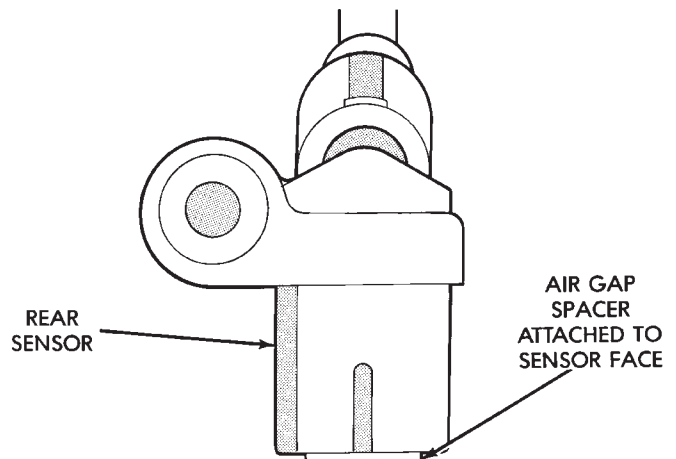

Fig. 11 New Rear Sensor
- (6) If **new** sensor was installed, push cardboard spacer on sensor face against tone ring (Fig. 11). Then tighten sensor bolt to 12-14 N·m (106-124 in. lbs.). Correct air gap will be established as tone ring rotates and peels spacer off sensor face.
- (7) Secure the rear sensor wires to the retainer clips. Verify that wire is clear of rotating components.
- (8) Connect sensor wire to harness connector.
- (9) Install brake drum and wheel and tire assembly.
- (10) Lower vehicle.
- (11) Connect sensor wire to harness connector.